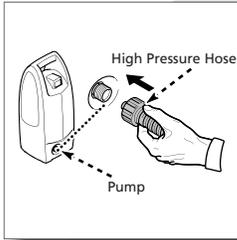

Fig. 2
- Screw the high pressure hose (clockwise) on the front of the unit at the bottom (Fig. 2). The end of the hose must be inserted into the water outlet far enough so the collar can thread onto the outlet threads until hand tight. Do not use pliers or vice grips to tighten. If it takes fewer than six or so turns you have not properly tightened the high pressure hose fitting. It is easier to position the power washer in front of you to ensure that the threads are started correctly. Failure to properly tighten the high pressure hose will result in the hose slipping or popping off immediately upon turning the unit on. Do not worry about damage if this occurs - just reinstall and take extra care at screwing on the high pressure hose fitting.